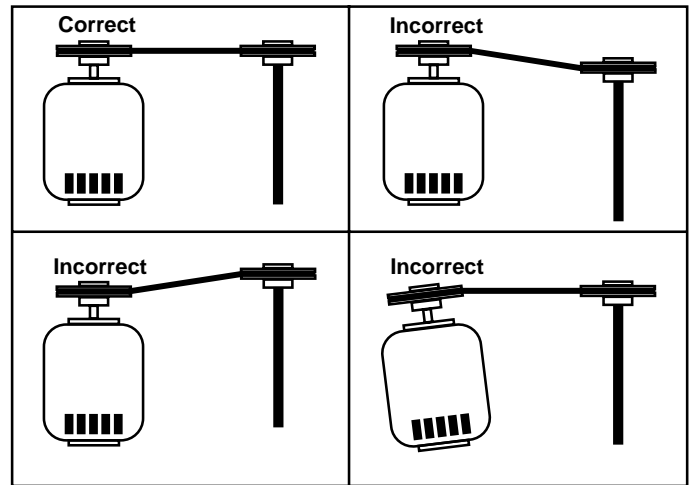
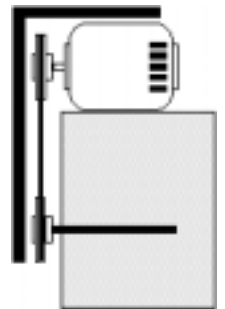

Figure 4
Figure 5
- Ensure pulleys are properly aligned. Refer to Figure 4.
Figure 4 illustrates correct and incorrect pulley alignment. A recommended method of inspecting the pulley alignment is shown in Figure 5. With the shorter leg of a carpenter's square or other straight edge lying along the case of the motor, adjust the position of the motor pulley (or the motor until the longer leg of the square is parallel to the belt.